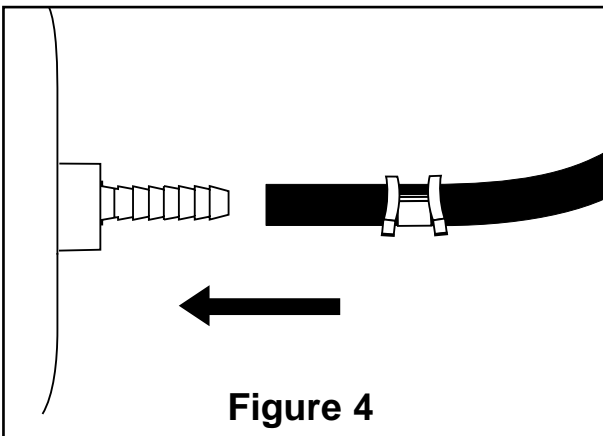

Figure 4
- G. Push the air line onto the stem, covering all the barbs. With pliers slide the air line clamp upward until it fully covers the barbed section (Figure 4).
D. Slide air line clamp onto the cut air line. Push the air line onto the stem, covering all the barbed section. With pliers slide the air line clamp forward until it fully covers barbed section (Figure 4).